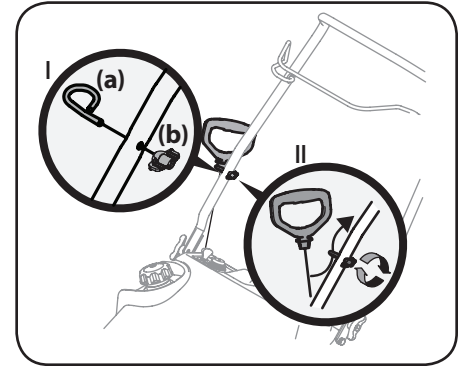

Figure 2-14
2. Place the eye bolt (a) and handle knob (b) on the upper handle as shown in Inset I in Figure 2-14. Do not fully tighten the hardware until instructed to do so.
4. Slip the recoil starter rope into the eye bolt (a) from the back of the snow thrower. See Inset II in Figure 2-14.